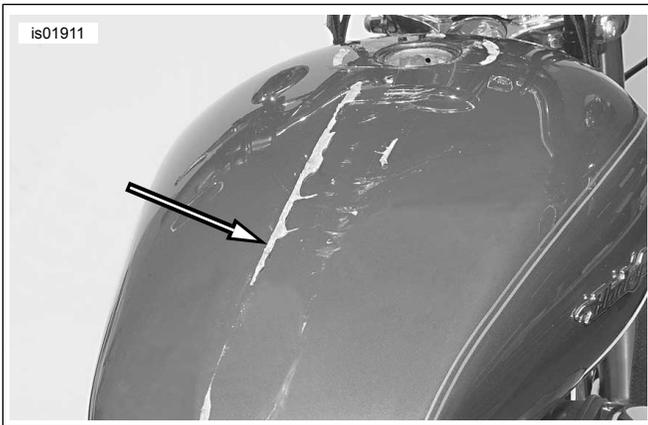

Figure 2. Removing the Adhesive Residue (XL 1200C)
4. See Figure 2. To remove any adhesive residue remaining on the tank surface: